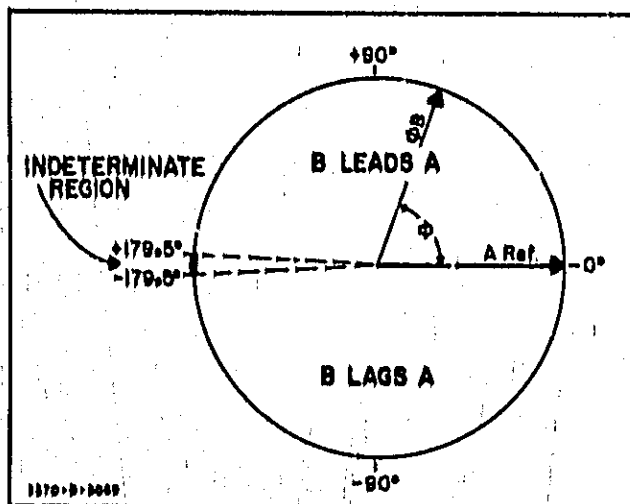

Figure 3-10. Phase Indeterminate Region.
3-77. Indeterminate Region. The 3570A phase measurement range encompasses 359 degrees, from -179.5 degrees to +179.5 degrees (Figure 3-10). This leaves a ± 0.5 degree gap about 180 degrees where the phase detector cannot respond properly. This gap is called the "indeterminate region". For phase measurements near 180 degrees, the indeterminate region can be avoided by changing the Phase Reference from A to -A. This shifts the phase of the Reference signal (A) by 180 degrees, placing the phase reading in the 0 degree region.